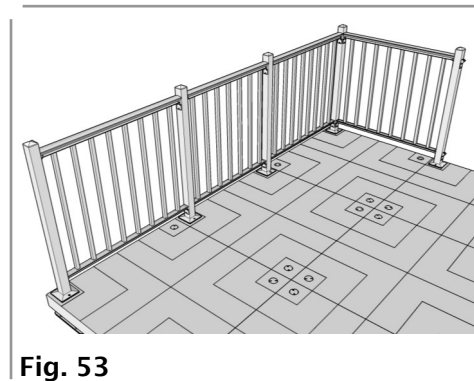

Fig. 53
**25.** Install an End Post 40" from the previously install In-Line Post (Fig. 53) and hang a 3'-2" Railing section between the two. Secure with fasteners.